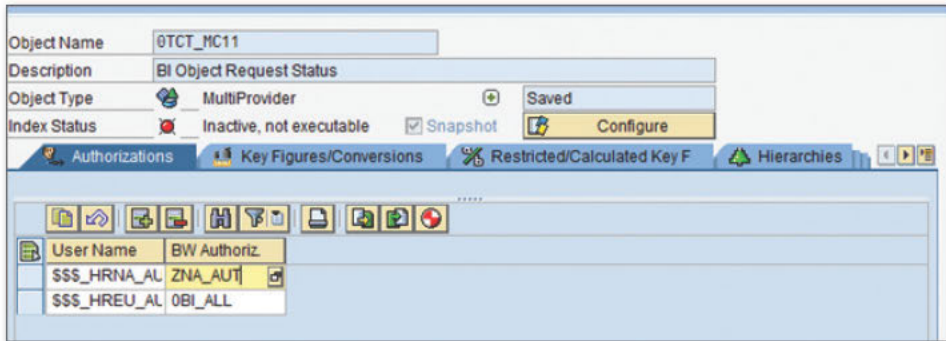

Figure 2 Mapping of Authorization Objects to SAP BusinessObjects Explorer User Groups
- Go to the AUTHORIZATIONS tab as shown in Figure 2, and map the user group with the appropriate authorization object. Enter the SAP BusinessObjects Explorer user groups (created in step 1) using the pattern \$\$\$_Group ID, for example, “\$\$\$_HREU_AUT”, and assign the authorization object to the group. All users in this group will automatically have the selected authorization.
- Enter your USER NAME and DB PASSWORD as shown in Figure 2 (note the password should be entered twice). Then enter the connection info string (in the CONN. INFO box). Follow this example and modify it to your needs: "MSSQL_SERVER=xxxxxx MSSQL_DBNAME=yyyyyy". In this example, note the following:
⤴ *Figure 2 Enter User Name, Database Password, and Connection Info*